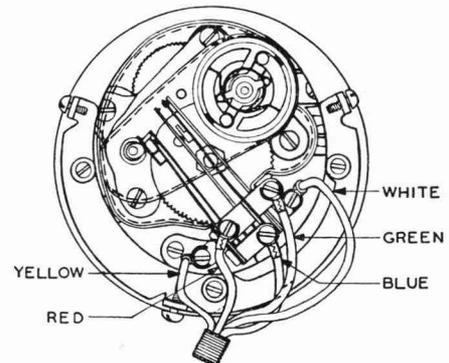

Fig. 6—Method of Cording Dials Having All Terminals Part of Spring Assembly, Using D5P or No. 765 Cords
5.03 **Dials Having All Terminals as Part of the Spring Assembly (See Fig. 6):** The procedure is the same as that outlined in 5.01 except as follows. The cord tip shall be angled approximately as shown in Fig. 6. The cord tips of the yellow and white leads shall have their shanks bent upward at an angle of approximately 90 degrees. Bending of the terminals in this manner will provide clearance between the cord tips and various dial adapters and mountings.
5. To revise spring combination on dial. (Fig. 6)